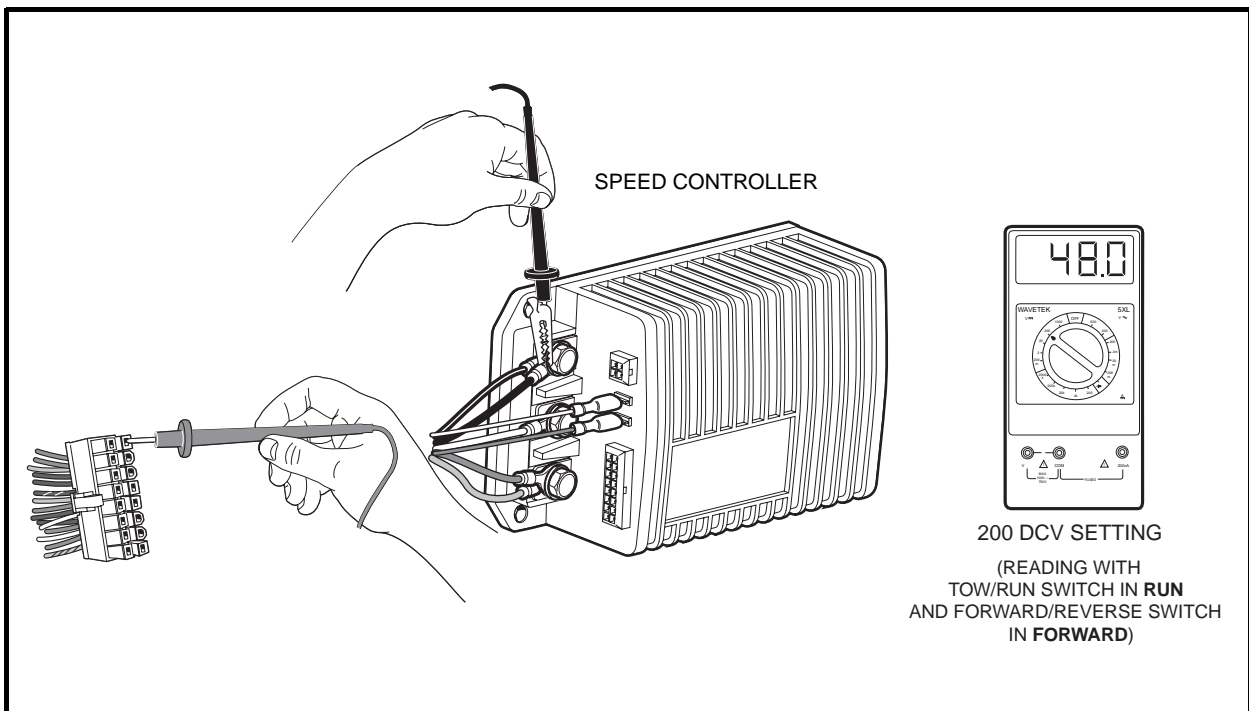

Figure 11-17 Pins 8 and 16 Test
4. Using a multimeter set for 200 volts DC, insert the red (+) probe of the multimeter into pin 8 (brown wire) of the 16-pin connector. **See following CAUTION.** Using an alligator clip, connect the black (–) probe to the B– terminal of the speed controller (**Figure 11-17, Page 11-31**).